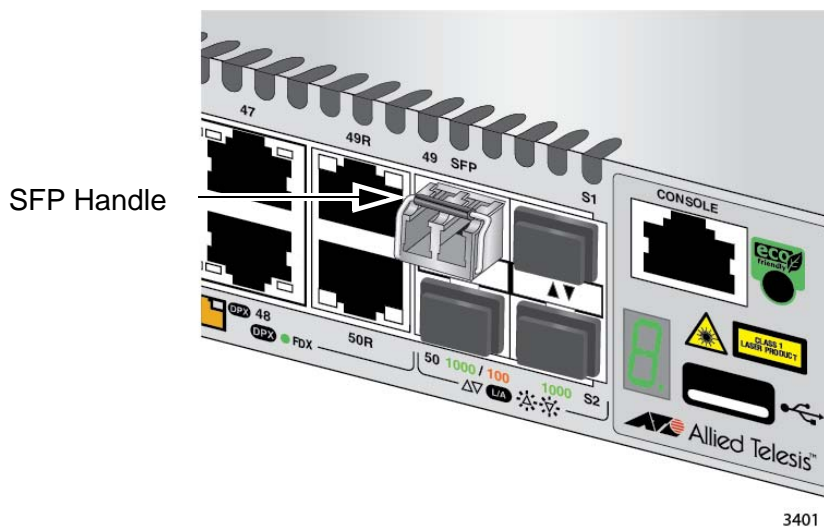

Figure 55. Positioning the SFP Handle in the Upright Position
6. Verify the position of the handle on the SFP transceiver. If the transceiver is in a top slot, the handle should be in the upright position, as shown in Figure 55. If the transceiver is in a bottom slot, the handle should be in the down position.